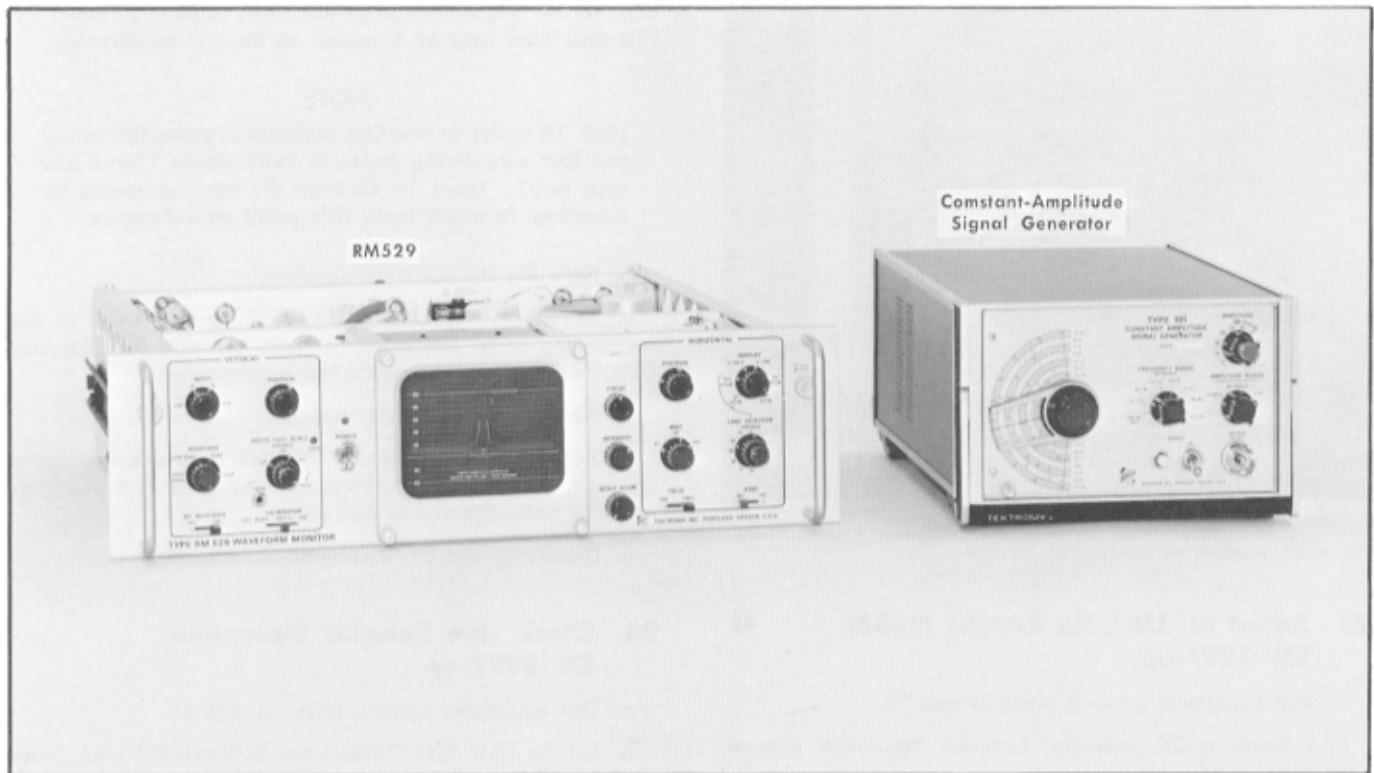
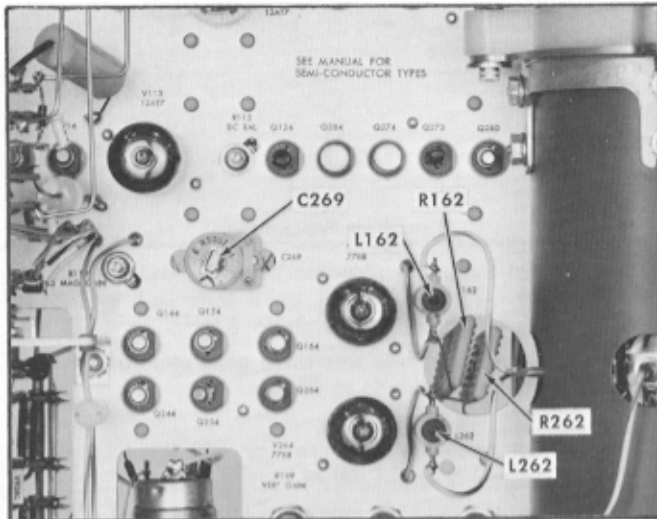

Fig. 6-32. Test equipment required for steps 25 through 30.
Fig. 6-33. Location of C369, R162, R262, L162 and L262.
- a. Test equipment setup as shown in Fig. 6-32.
**26. Adjust Vertical-Amplifier 1.0 Flat-Frequency Response (C269, L162 and L262) ①**
- c. Adjust the vertical amplifier components (see Fig. 6-33) as listed in Table 6-3 to obtain flat frequency response from 500 kHz to 8 MHz within +0%, -1% to 5 MHz and flat to within +0%, -3% to 8 MHz.
Vertical Amplifier Flat-Frequency Response Adjustments Shown in Fig. 6-33